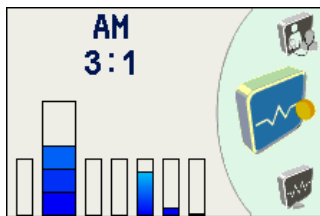

Fig.17
5.4 Press the ▾ button to switch to the **Menu state** (Fig.17). Press the ▾ button at an interval of no longer than 2 seconds to make sure that the highlighting switches cyclically.